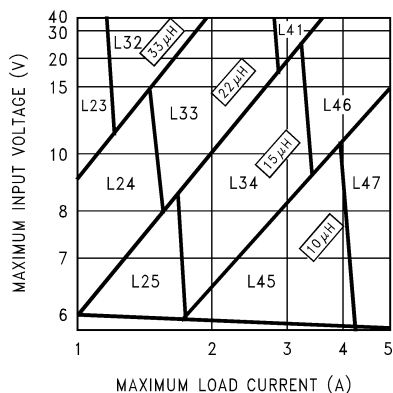
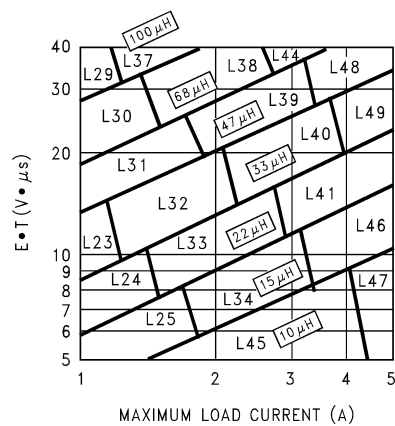

Figure 18. LM2679-3.3
Figure 21. LM2679-ADJ
Step 3: Determine the inductor required by using one of the four nomographs, Figure 18 through Figure 21. Table 1 provides a specific manufacturer and part number for the inductor.
Step 5: Determine an input capacitor from Table 8 and Table 9 for fixed output voltage applications. Use Table 3 and Table 4 to find the specific capacitor type. For adjustable output circuits select a capacitor from Table 3 and Table 4 with a sufficient working voltage (WV) rating greater than $V_{in\text{ max}}$, and an rms current rating greater than one-half the maximum load current (2 or more capacitors in parallel may be required).
Step 3: Use the nomograph for the 3.3V device, Figure 18. The intersection of the 16V horizontal line ($V_{in} \text{ max}$) and the 4A vertical line ($I_{load} \text{ max}$) indicates that L46, a 15 μ H inductor, is required.
Step 3: To use the nomograph for the adjustable device, Figure 21, requires a calculation of the inductor Volt•microsecond constant ($E \cdot T$ expressed in $V \cdot \mu S$) from the following formula:
Using Figure 21, the intersection of 27V• μS horizontally and the 3.5A vertical line ($I_{load\ max}$) indicates that L48, a 47 μH inductor, or L49, a 33 μH inductor could be used. Either inductor will be suitable, but for this example selecting the larger inductance will result in lower ripple current.
When using the adjustable device in low voltage applications (less than 3V output), if the nomograph, Figure 21, selects an inductance of 22μH or less, Table 12 and Table 13 do not provide an output capacitor solution. With these conditions the number of output capacitors required for stable operation becomes impractical. It is recommended to use either a 33μH or 47μH inductor and the output capacitors from Table 12 and Table 13.